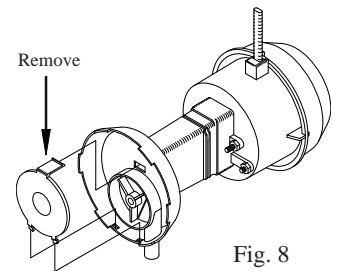

Fig. 8
- **Clean pump.** Cleaning the pump is necessary once a year at start-up. For your safety, disconnect from power source and unplug pump. Remove the pump from the mount bracket. Remove the base of the pump (Fig. 8). Clean the pump and turn the impeller to ensure free operation. Remove the pump spout and check for any blockage. After cleaning, reinstall the base onto the pump. Reattach the pump to the mount in the cooler to ensure that the pump will not overturn. Do not forget to replace the spout and water delivery tube onto the pump outlet. The pump has automatic reset thermal protection. Pump will operate normal again after obstruction is cleared.